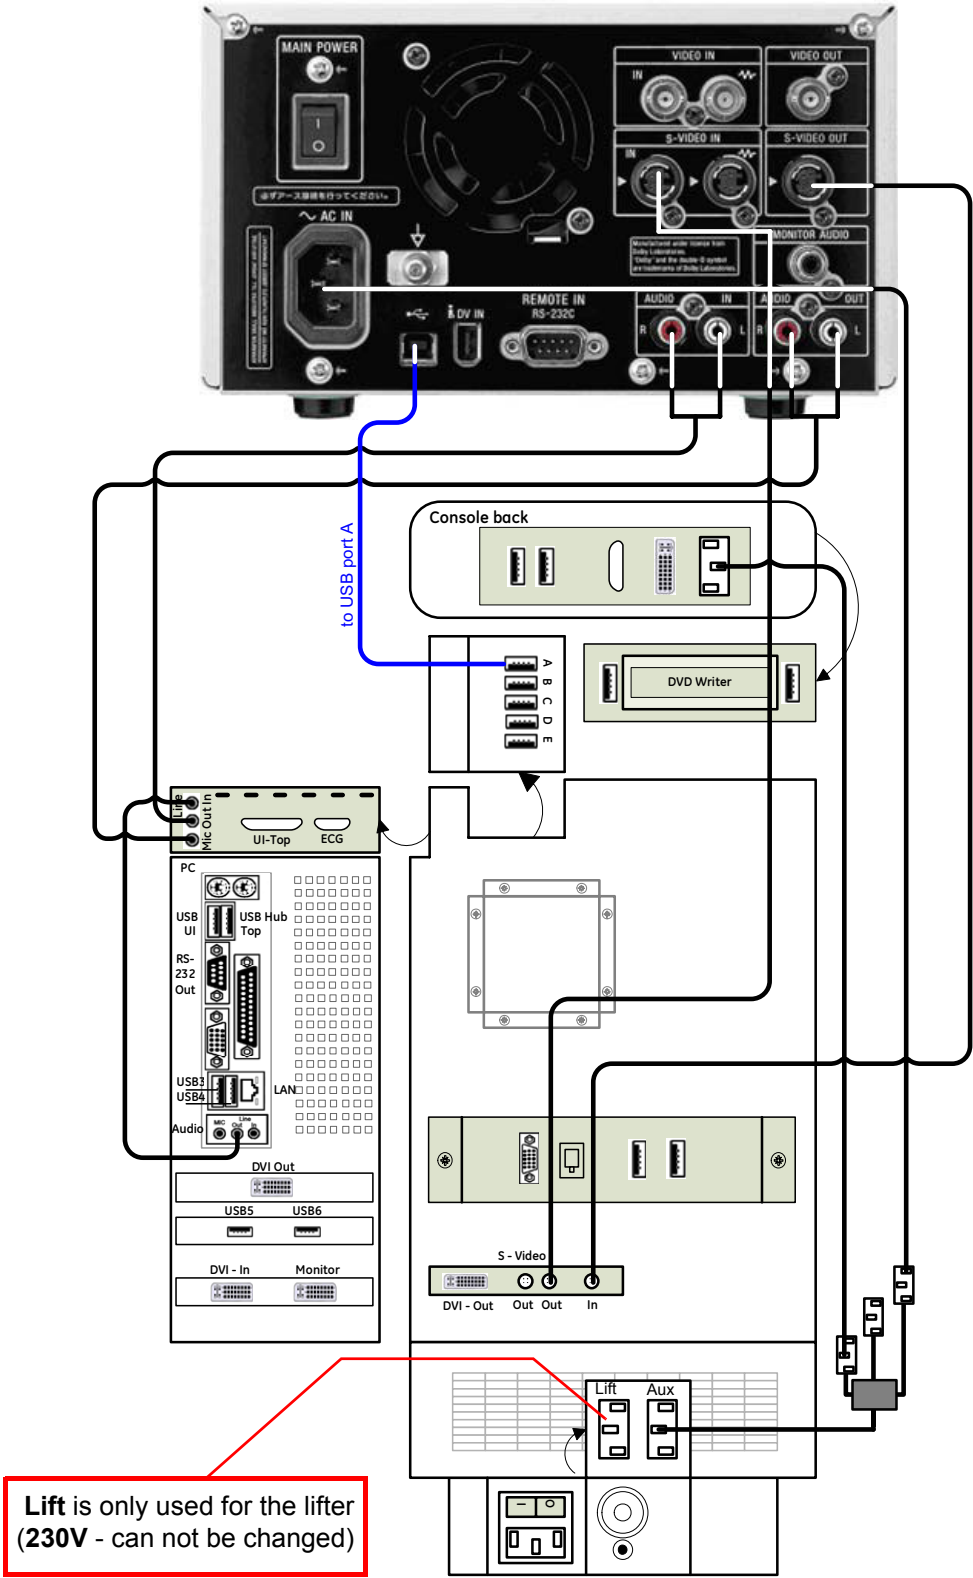

Figure 3-22 DVD Recorder connection (BT06: KONTRON PC-Motherboard installed)
- if “**Kontron**” PC-Motherboard is installed, see: Figure 3-22 on page 3-30.